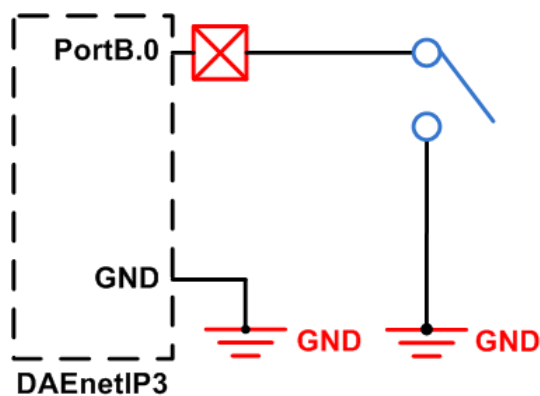

Figure 76. Connecting switch to DI line
Bellow on figure 76 is given example how a switch button may be connected to PortB input line. When the switch is opened, the input level is low (0), when the switch is closed the input level is high (1).